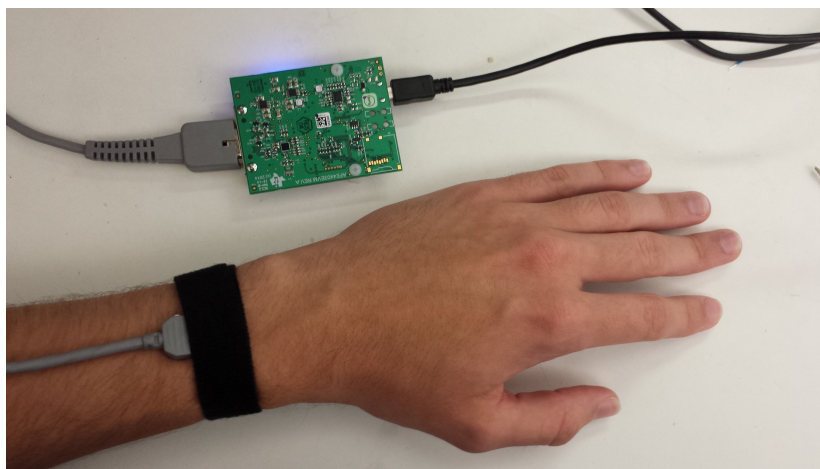

Figure 45. Setup for Obtaining Measurements from the Wrist
- (c) Place the sensor side of the sensor board on the wrist and tie it snugly. Figure 45 shows the sensor board being held with a velcro strap. Holding the sensor down with a finger is not recommended because a high level of motion noise is likely to occur due to small movements and changes in pressure.